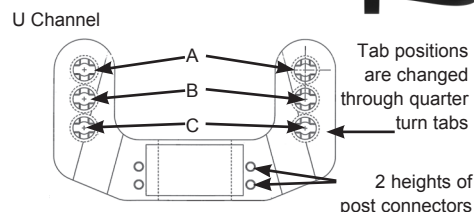

Figure 1
3. Pull the black colored "U Channel" (Figure 1) straight away from the black inner liner. There is one "U Channel" in the front of the helmet and one in the back of the helmet.